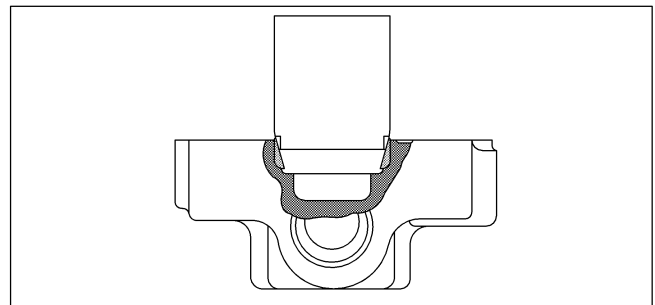

Figure 21. Installation of Bearing Race into Valve Block.
1. If bearing (38) was defective and bearing race (71) has been removed, a new bearing race must be installed into the valve block. Refer to Figure 21 and press a new bearing race in place with an arbor press. The bearing race must bottom against the shoulder of valve block at completion of press.